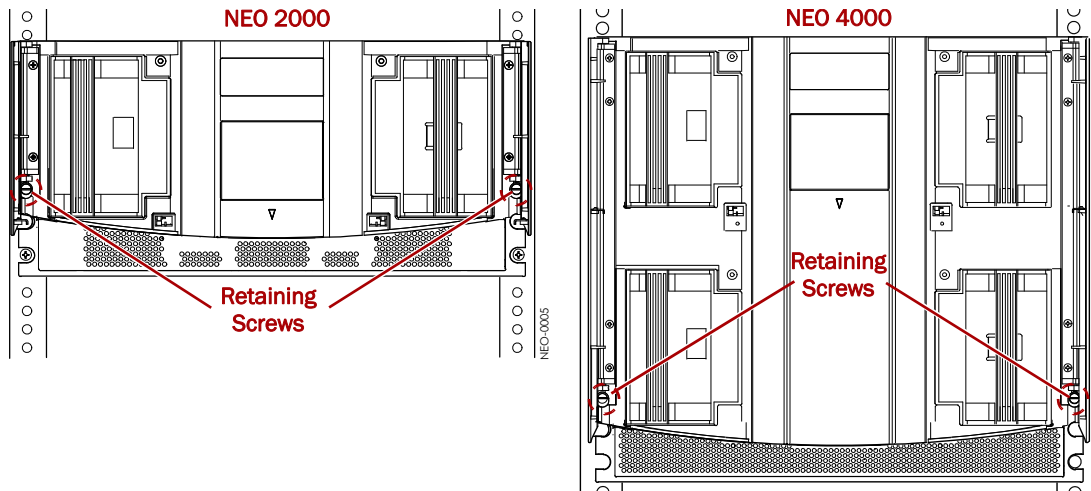

Figure 7. Library Retaining Screws
- Using the two captive **thumbscrews** (Figure 7 on page 3), attach unit to rack.